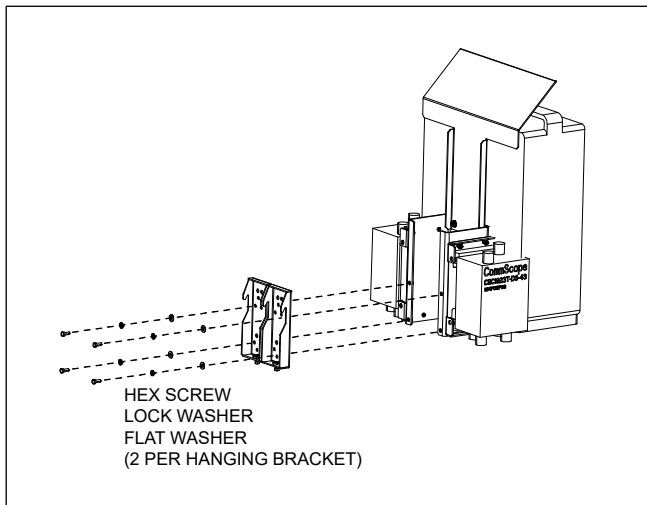

Figure 9 **Power Supply Hanging Brackets**
2. Attach two hanging brackets to the back of the power supply bracket (Figure 9) Secure using four 1/4-20 hex screws (5/8" long) with lock washers and flat washers.